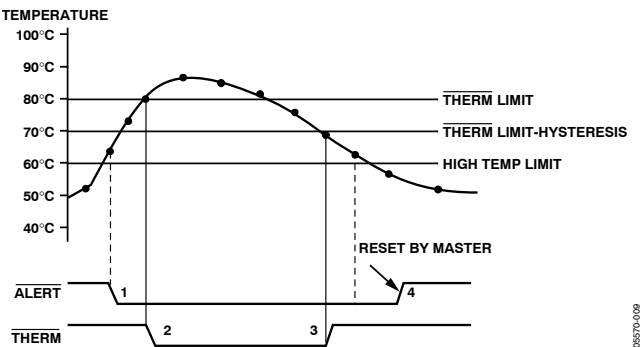

Figure 20. Operation of the ALERT and THERM Outputs
Figure 20 shows how the THERM and ALERT outputs operate. The ALERT output can be used as an SMBALERT to signal to the host via the SMBus that the temperature has risen. If the temperature continues to increase, the THERM output can be used to turn on a fan to cool the system. This method ensures that there is a fail-safe mechanism to cool the system, without the need for host intervention.
- The THERM output deasserts (goes high) when the temperature falls to THERM limit minus hysteresis. In Figure 20, the default hysteresis value of 10°C is shown.